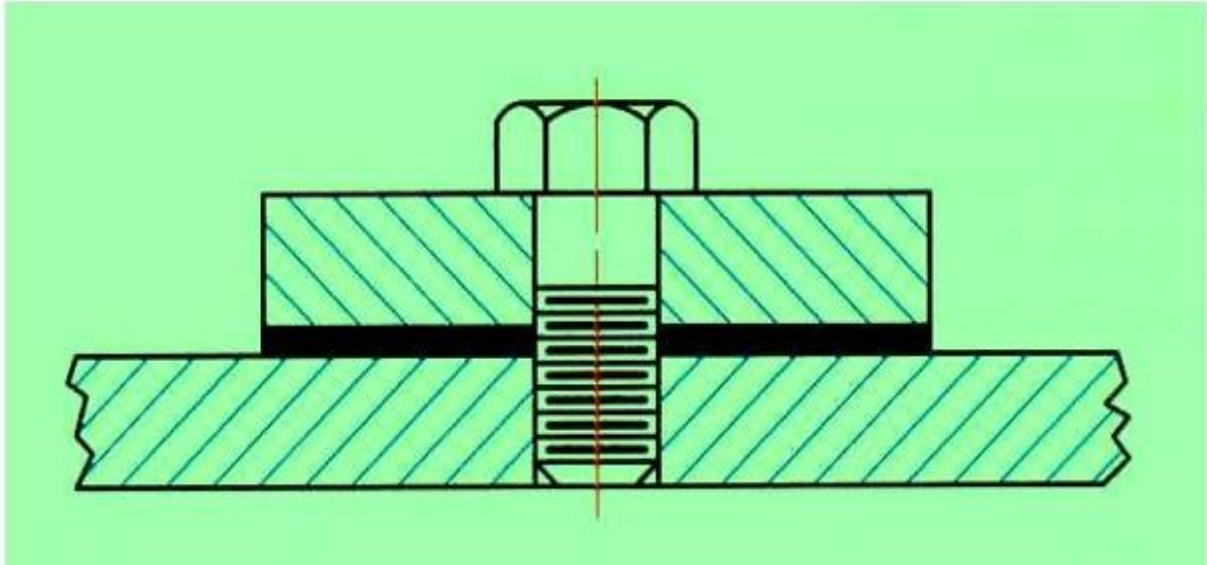

Figure 20. Representation of section view of a very thin part (e.g. gasket)
- Very thin parts such as washers and gaskets are not easily represented with section lines, so conventional practice calls for representing the thin part in solid black. Figure 20 shows the section of a gasket drawn as solid black.